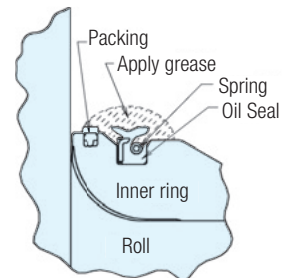

Fig. 8 Oil Seal Installation
In the installation, the cut should be at a 90° position from the split in the inner ring, as with the packing (see **Fig. 8**).
- (5) Apply grease to the packing and the oil seal on their surfaces (shaded area in **Fig. 8**).